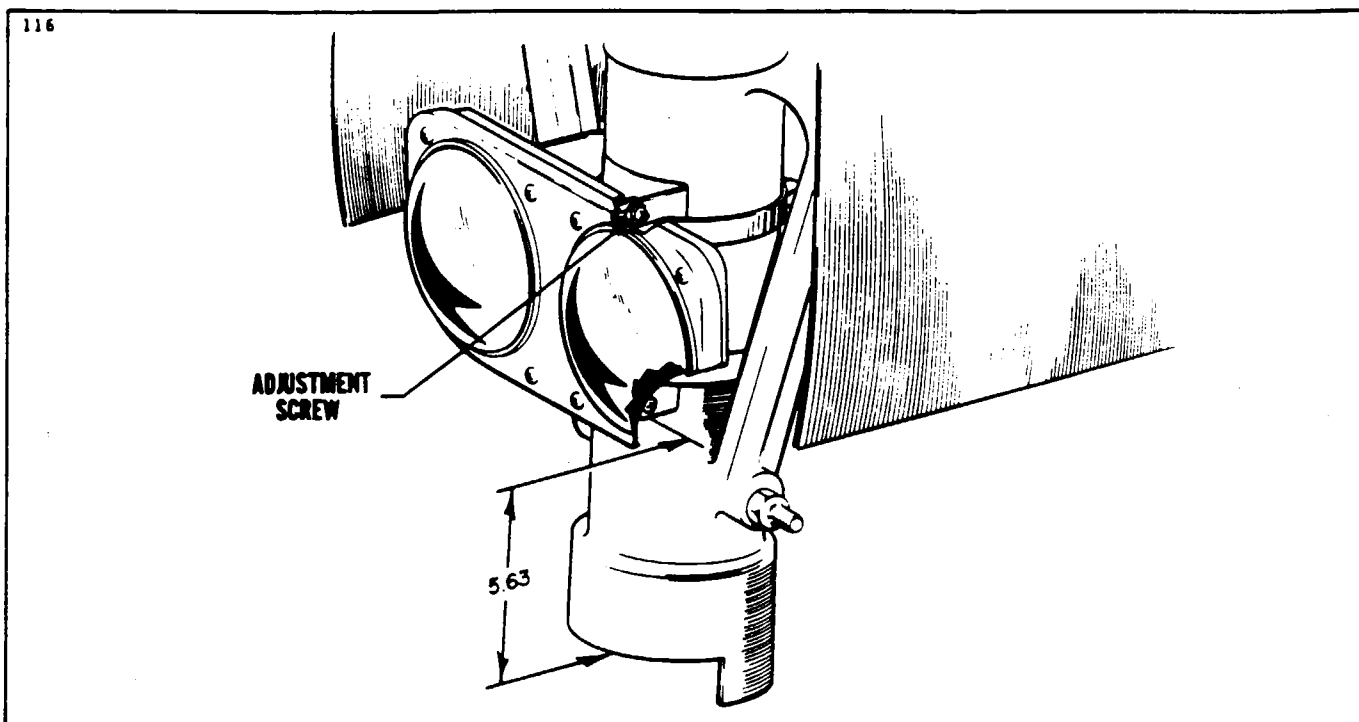

Figure 33-1. Landing Light Installation
REMOVAL OF LANDING LIGHT. (Refer to Figure 33-1.)
2. To install the landing light assembly, position the assembly against the strut housing with the bottom of the mounting bracket 5.63 inches up from the bottom of the housing. (Refer to Figure 33-1.) Align the bracket longitudinally and secure with clamps. The light beam angle may be adjusted by the adjustment screws at the side of the bracket and tilting as desired.